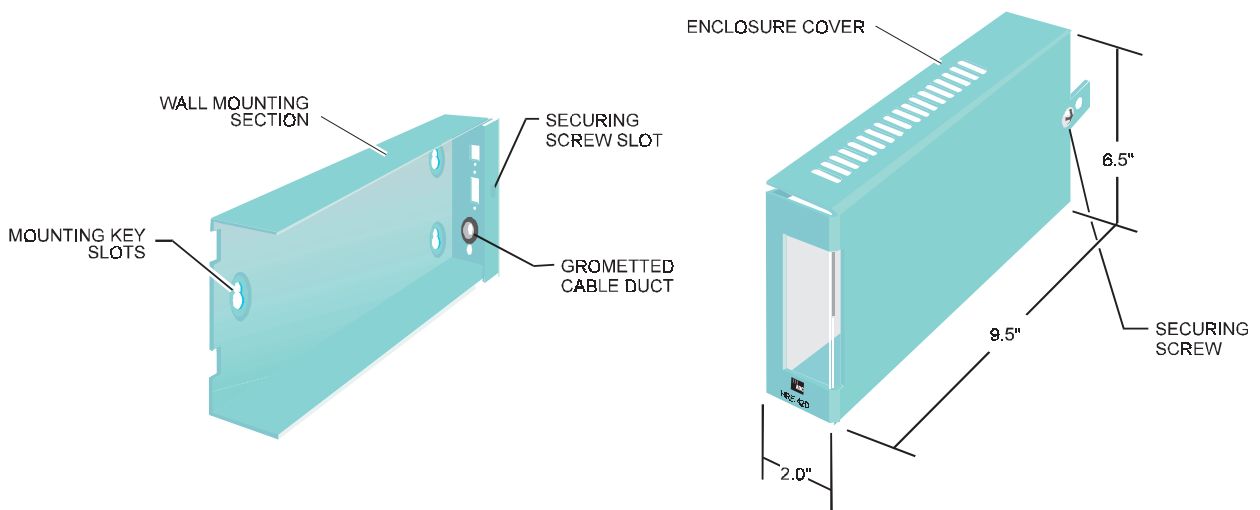

Figure 3. HRE-420 Enclosure Cover and Wall Mounting Plate
The tamper-proof screw can replace the factory provided blade “securing screw” shown in Figure 3. This screw requires an Allen key wrench, available on request, to install. It is intended to provide additional security if desired. The gummed Circuit Assignment Label is for circuit I.D.#. It can be attached to any convenient location on the enclosure. The RJ-48 jack comes with a small metal cover. This is provided to prevent access to the DS1 interface when the Customer Interface (CI) is external to the HRE-420. This makes the HRE-420, List 1 and 2, MPOE (Minimum Point Of Entry) compliant.
Select a location for wall mounting the unit which will allow sufficient access to wiring connections on the right and indicators, test jacks, etc., on the left, see Figures 3 and 13. Lift the enclosure cover off the wall mounting plate and use it, or the drilling template provided, as a template for drilling or locating mounting holes. Attach the plate securely to the wall.